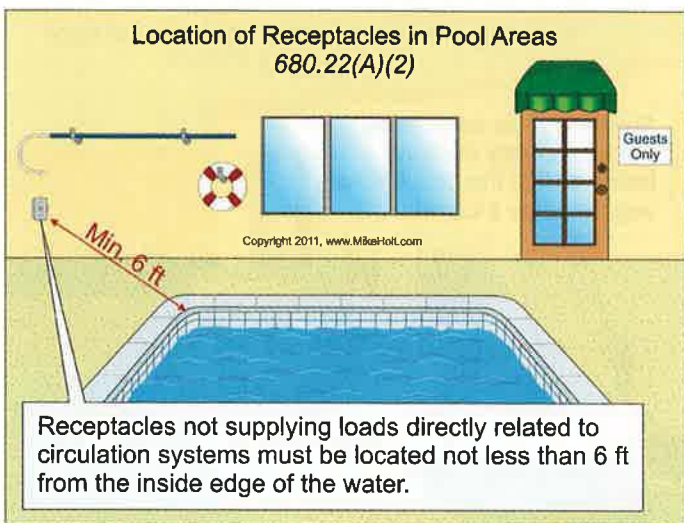

Figure 680-15
(2) **Other Receptacles.** Receptacles not for motors or other loads directly related to the circulation system must be not less than 6 ft from the inside walls of a permanently installed pool, outdoor spa, or outdoor hot tub. **Figure 680-15**